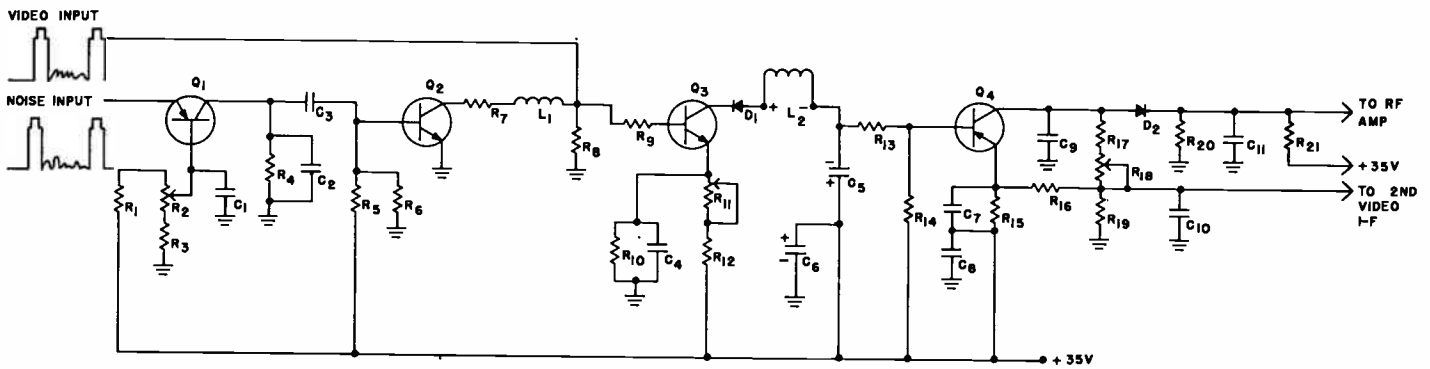

Fig. 18. A noise-cancelling agc system.
A noise cancelling agc system is shown in Fig. 18. In this circuit a positive-going sync pulse, as shown, is taken off after the first video amplifier stage and fed to the emitter of Q_1 . The bias on the base of Q_1 is adjusted so that the transistor does not conduct unless a signal exceeding the amplitude of the sync
- (y) What signals are amplified by Q_1 and Q_2 in Fig. 18?
- (z) What purpose does D_2 in Fig. 18 serve?